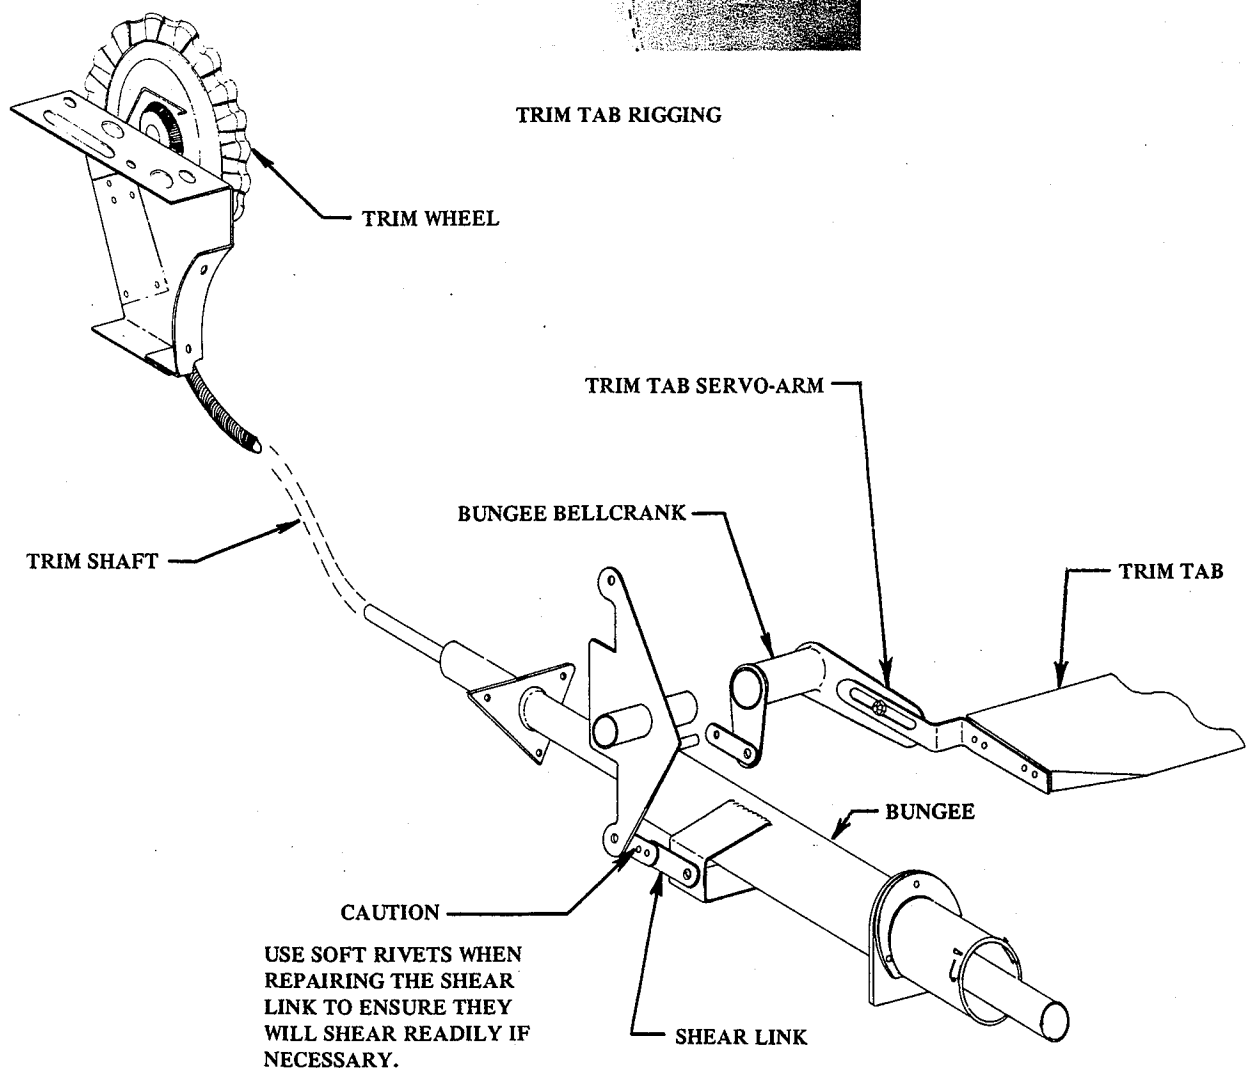

FIGURE 5-6 TRIM SYSTEM
3. Check the trim tab position at  $11^\circ \pm 1^\circ$  down with respect to the elevator surface. To measure the angle, a "bubble protractor" should be used (See Figure 5-6).
For replacement of the shear-link rivets, see figure 5-6, Trim System.